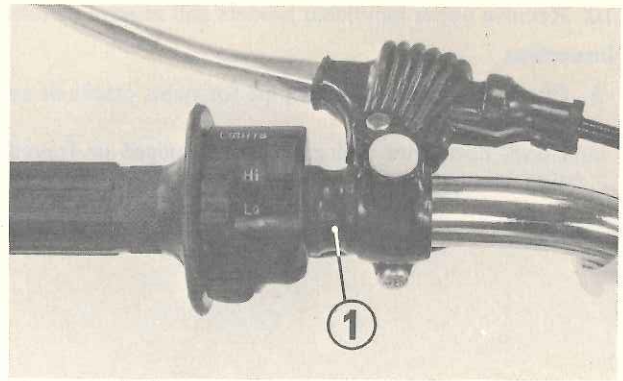

Fig. 4-41 (1) Spacer
5. Install handlebar bracked and spacer, so that clearance is as shown in Fig. 4-41.